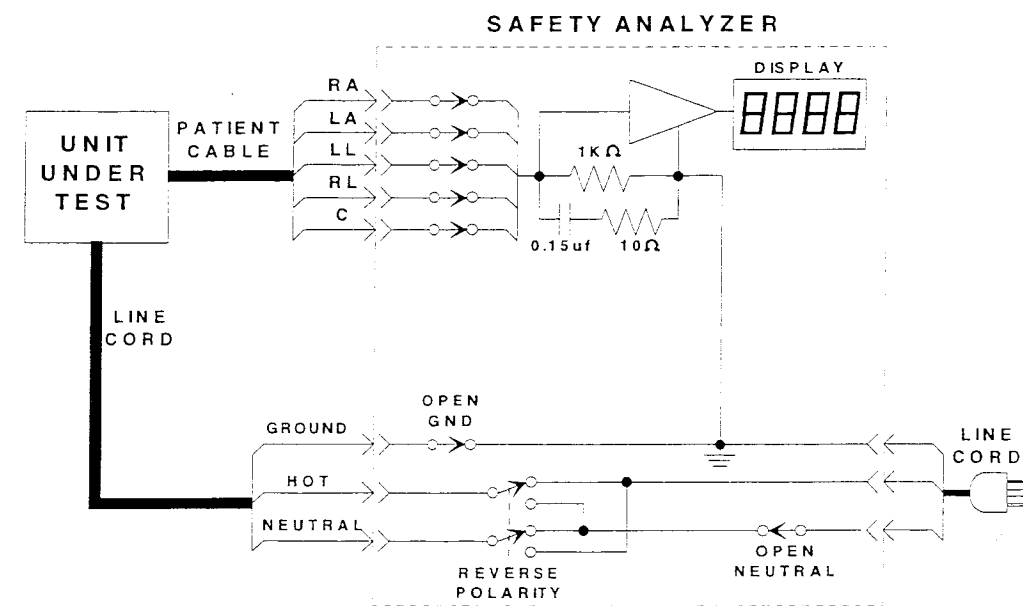

Figure 7-14
1. Connect the PATIENT CABLE from the safety analyzer to the System 98, as shown in figure 7-14.